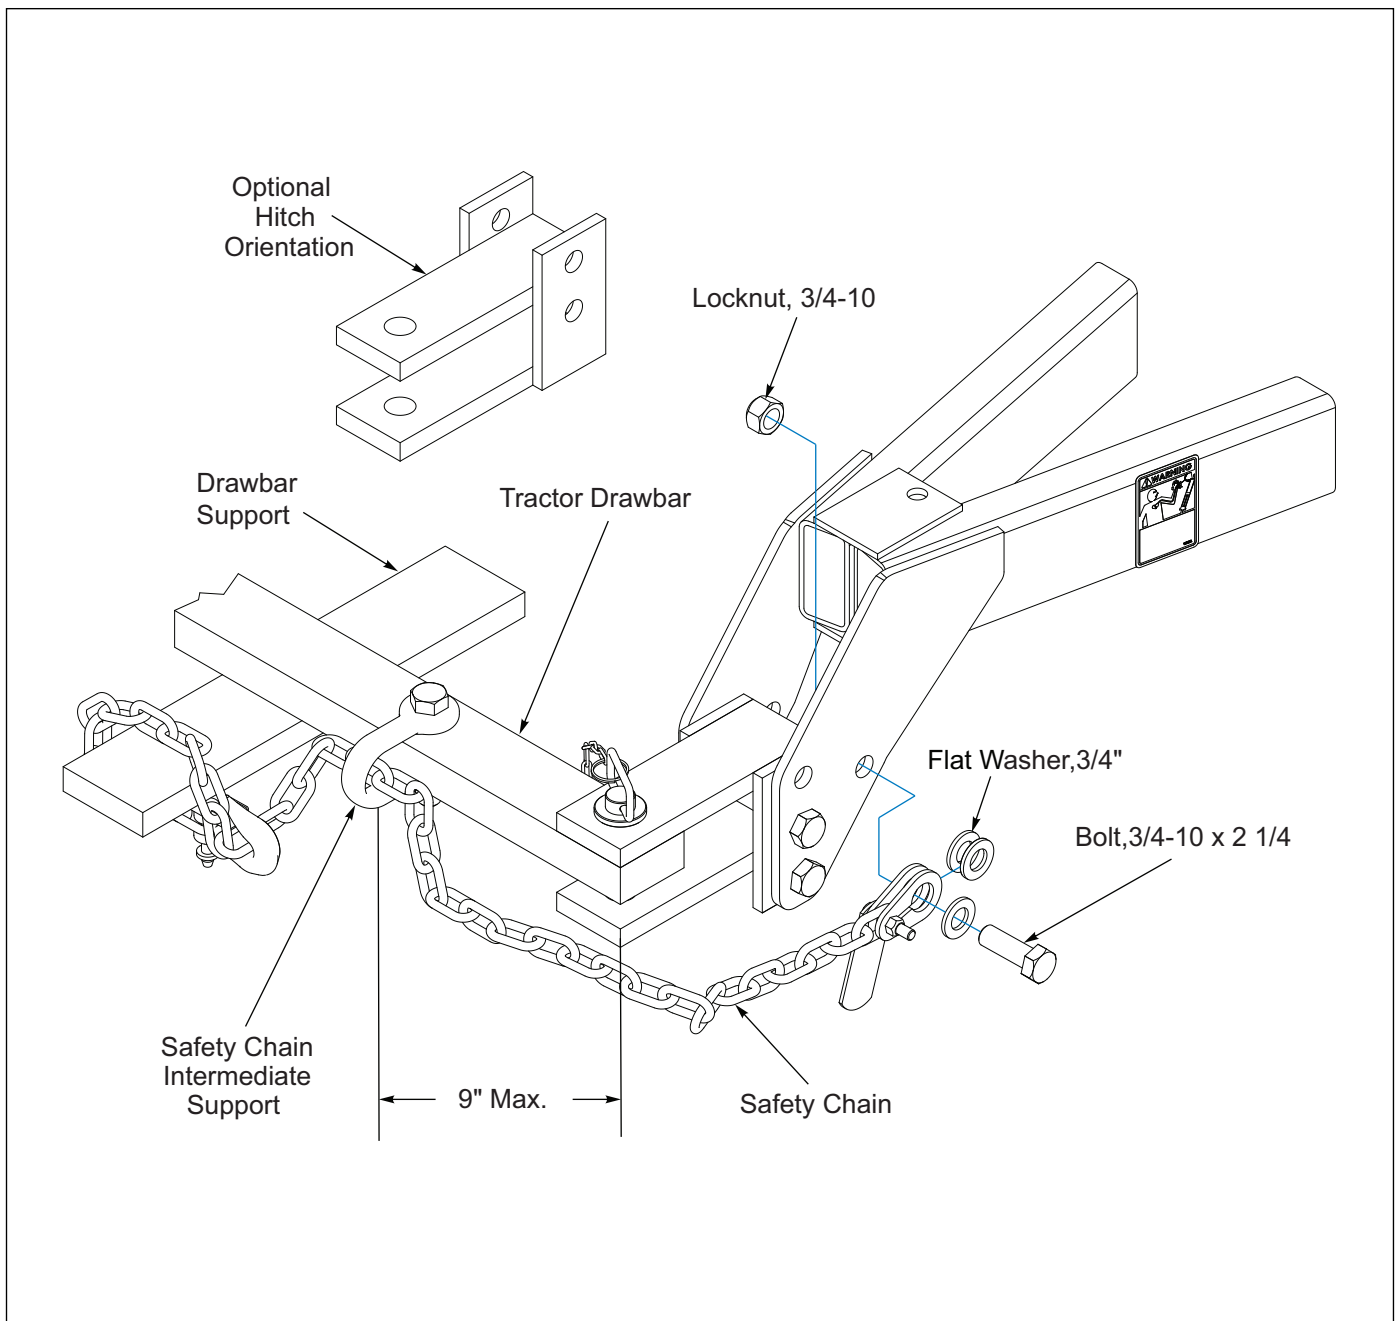

Figure 1-2: Safety Chain
3. Attach the chain to the Tractor Drawbar Support or specified anchor location. Never attach the chain to an intermediate support. Allow only enough slack in the chain to permit turning. The distance from Hitch Pin to attachment point or intermediate support point should not exceed 9 inches. If the distance from the Drawbar Pin to either the front or rear attachment point exceeds 9 inches, intermediate chain is required. **See Figure 1-2.**